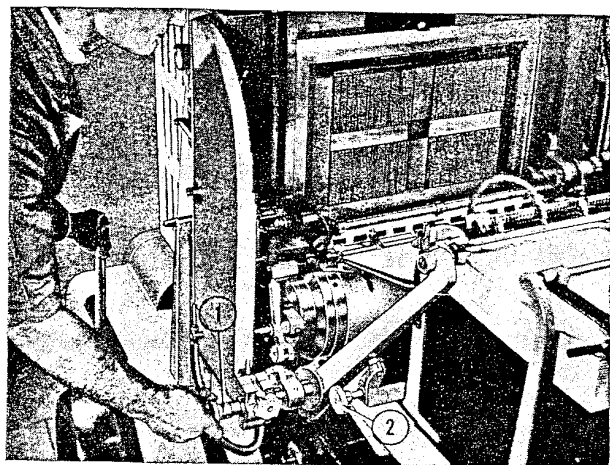

Figure 16—Air Control Valve Handle
Suction for the shoes is controlled by a feeder control air valve which is actuated by a handle located on the left side of the feeder. (See (1) figure 16.) When this handle is pushed to its *in* position, suction is supplied for the shoes.
In order to obtain accurate sheet separation, thereby assuring continuous feeding, it may be necessary during press operations to adjust the height of the feeder blower nozzle. This is accomplished by turning the adjusting hand wheel, (2) figure 16, which will raise or lower the blower nozzle.